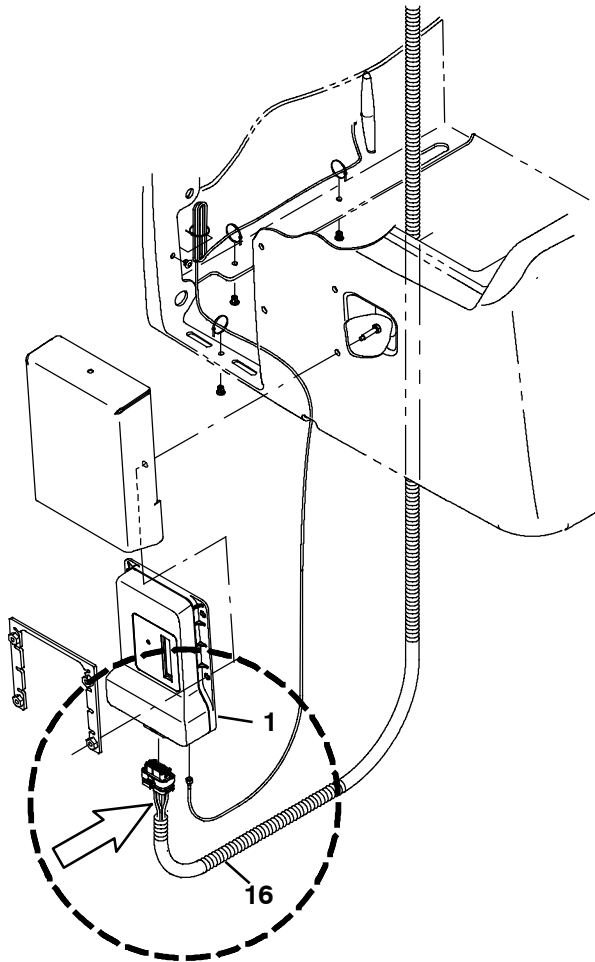

Fig. 21
21. Route and connect the telemetry harness (16) to the telemetry control box (1) (Fig. 21).